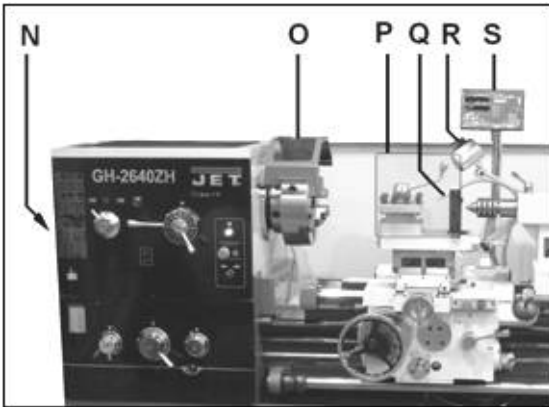

Fig 3
The pulley cover (N, Fig 3) and the chuck guard (O) are limit switch protected. They must be closed to operate the machine.